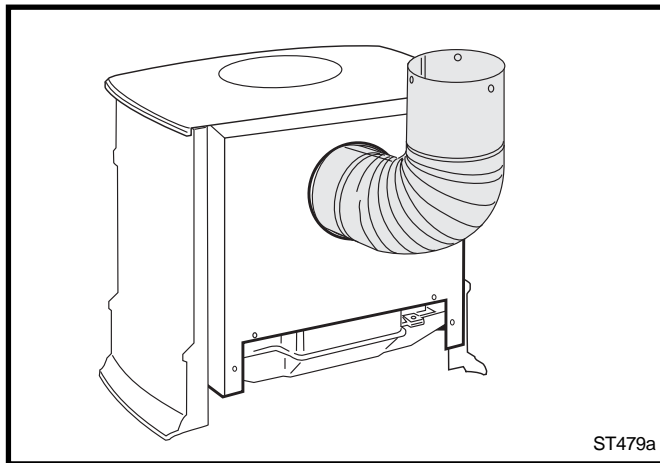

Fig. 23 Fasten outer pipe with #12 x 1/2" sheet metal screws.
5. Install the first elbow and secure using three sheet metal screws. Insert the elbow over the stove flue collar. Also, be sure to align holes on the pipe with the holes on the flue collar of the firebox. Fasten the pipe to the holes in the flue collar with the #12 x 1/2" sheet metal screws provided. (Fig. 23)